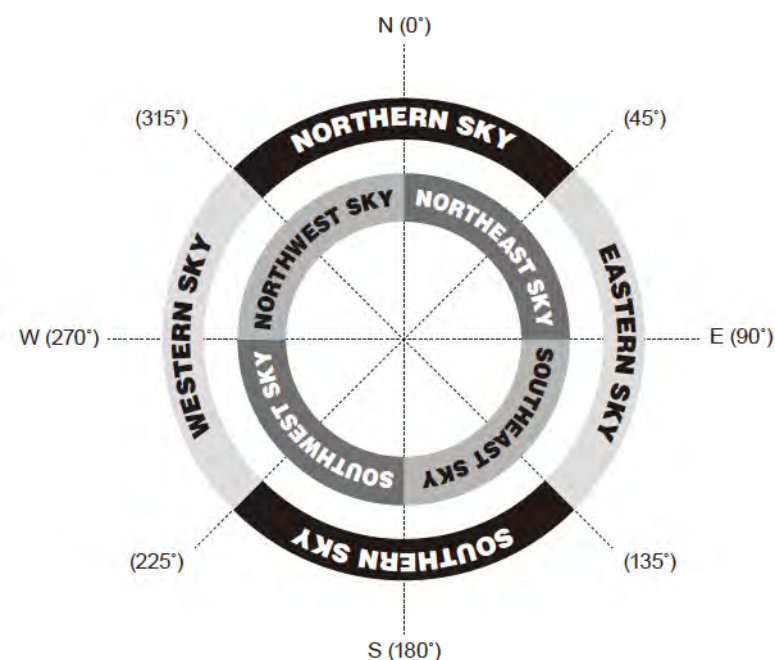

Fig. 3.4a
2. The hand control displays “**Select Region**”. Use the scroll keys to pick one of the eight regions shown in Fig 3.4a, which matches the horizontal region of the brightest star. Press **ENTER** to confirm selection and proceed to the next step.